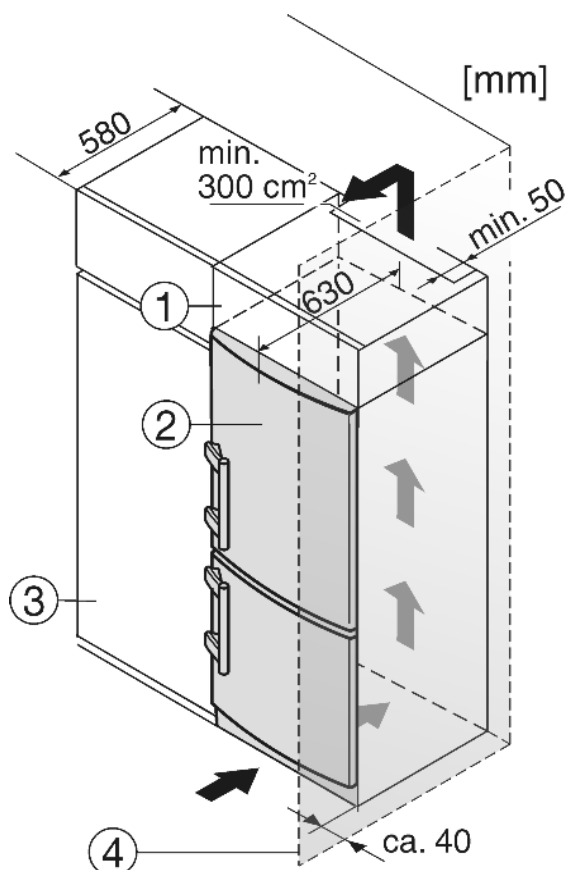

Fig. 9
- (1) Stack cabinet (3) Kitchen cabinet
(2) Appliance (4) Wall
The appliance can be inserted into a row of kitchen units. To match the appliance Fig. 9 (2) to the height of the row of units, a suitable stack cabinet Fig. 9 (1) can be fitted above the appliance.
When inserting the appliance into a row of kitchen units (max. depth 580 mm), the appliance can be installed directly next to the kitchen unit Fig. 9 (3). The appliance door projects relative to the front of the kitchen unit by 34 mm at the side and by 50 mm in the middle of the appliance. It can be opened and closed perfectly as a result.
If the appliance is installed with the hinges next to a wall Fig. 9 (4), the distance between appliance and wall has to be at least 40 mm. This corresponds to the projection of the handle when the door is open.